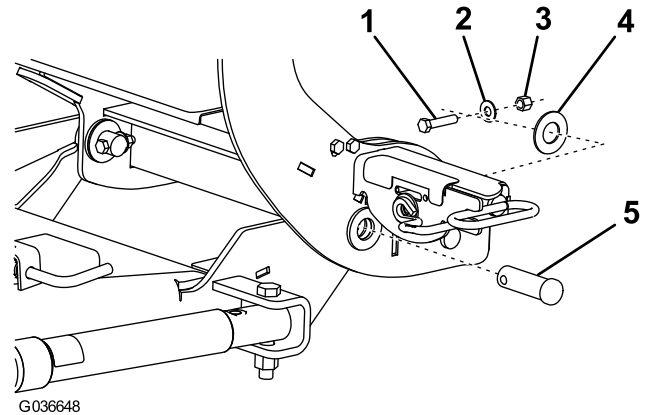

Figure 7
- Align the pivot holes of the coupler tower with the pivot holes on the push-frame assembly, and secure them as shown in Figure 7.